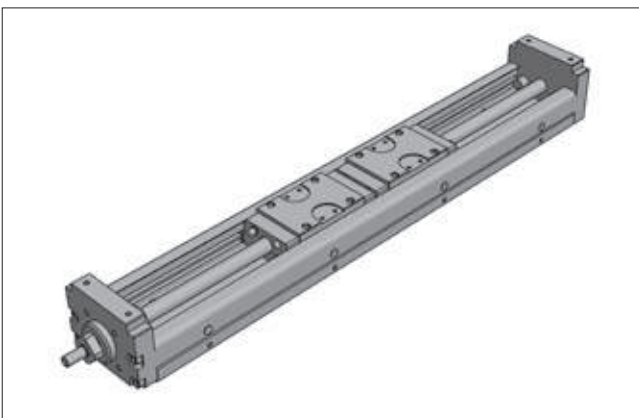

Figure 5.11 ___ AXBG – profile with carriages
- U - shaped steel profiles as base material with internal carriages (Figure 5.11)